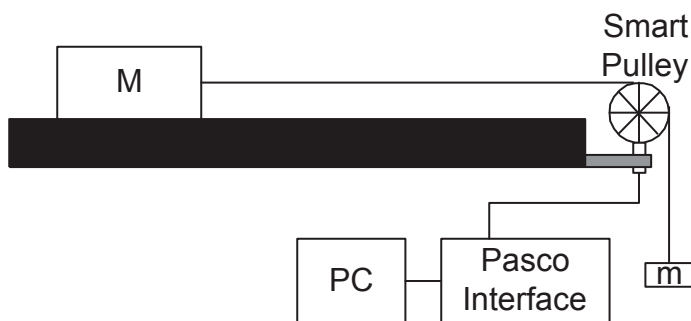

Figure 5.1: Kinetic Friction Apparatus
The force of friction can be determined by measuring the acceleration of a body when all the other forces are known. You will be doing this for a block of some material as it accelerates across the table top, pulled forward by a hanging mass, and with friction opposing the motion of the block. Fig. 5.1 shows the experimental setup. The string
1. Set up the experiment as shown in Fig. 5.1, checking to see that the string pulls horizontally on the block; raise or lower the pulley as needed. Plug the Smart Pulley into the Pasco Interface box, make sure the interface box is turned on, and then turn on the computer.